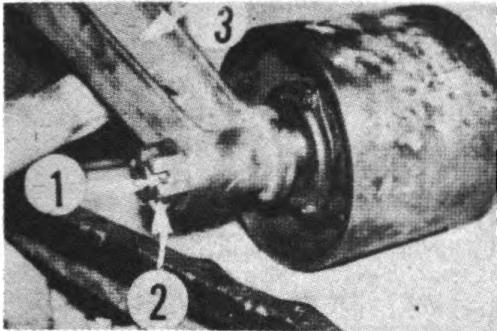

Figure 1. REMOVING ARM FROM IDLER ASSEMBLY
7. Place idler stud in end of idler arm (3). Tighten outer lock nut (2) on idler stud and lock with cotter pin (1). See Figure 1.